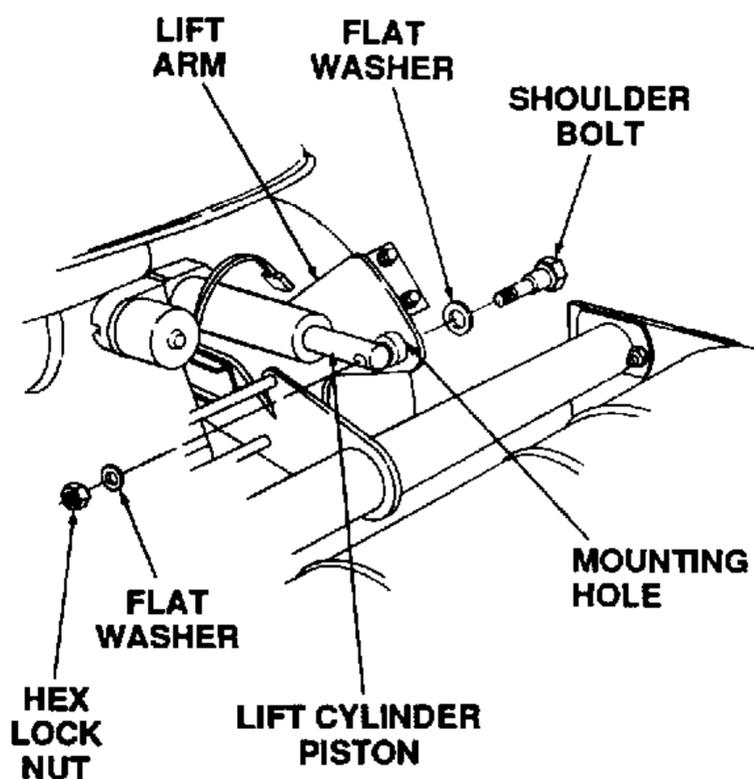

Figure 7-62. Attaching Lift Cylinder To Tiller.
- c. Position the piston end of the lift cylinder to align with the mounting hole of the tiller lift arm. See Figure 7-62. If necessary, rotate the cylinder piston counterclockwise to manually extend the piston.
- d. Slide the flat washer (26) onto the shoulder bolt (25) and insert the shoulder bolt through the lift arm and cylinder piston. Secure with the flat washer (27) and hex lock nut (28) as shown in Figure 7-62.